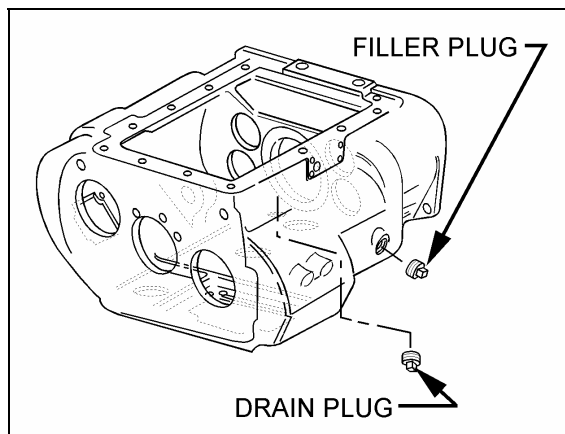

FIGURE 6: DRAIN AND FILLER PLUGS 07030
| FIGURE 6: | DRAIN AND FILLER PLUGS | 07-7 |
1. Unscrew the drain plug (Fig. 6) and allow the oil to drain into a suitable container.
1. Remove filler plug (Fig. 6).